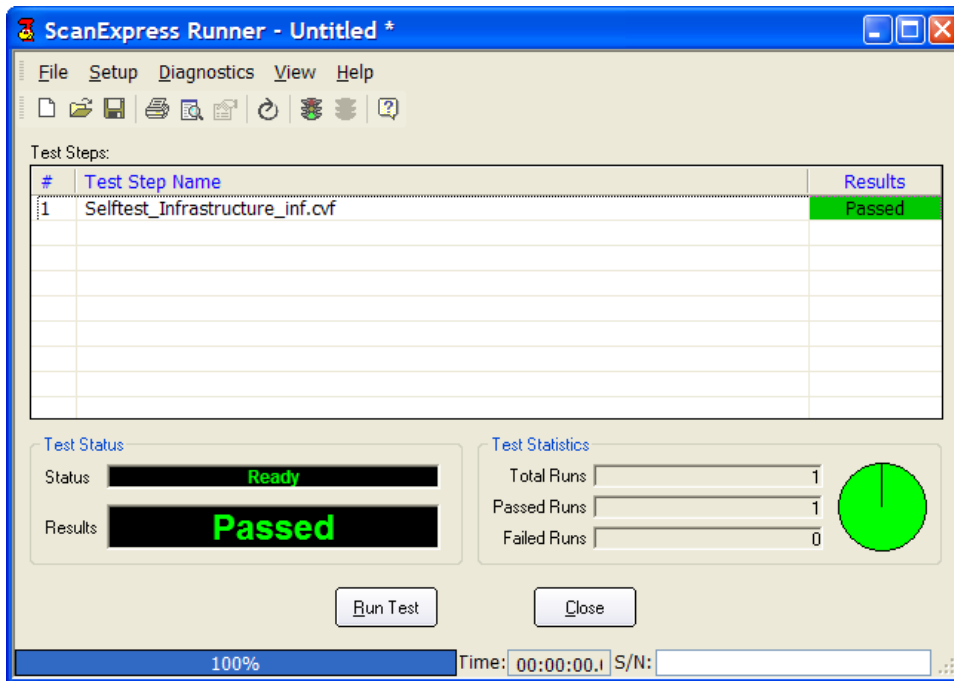

Figure 4-1. ScanExpress Runner Infrastructure Test
- Step 11 Click “**Run Test**”. The test should run and pass. Figure 4-1 shows a passing infrastructure test.